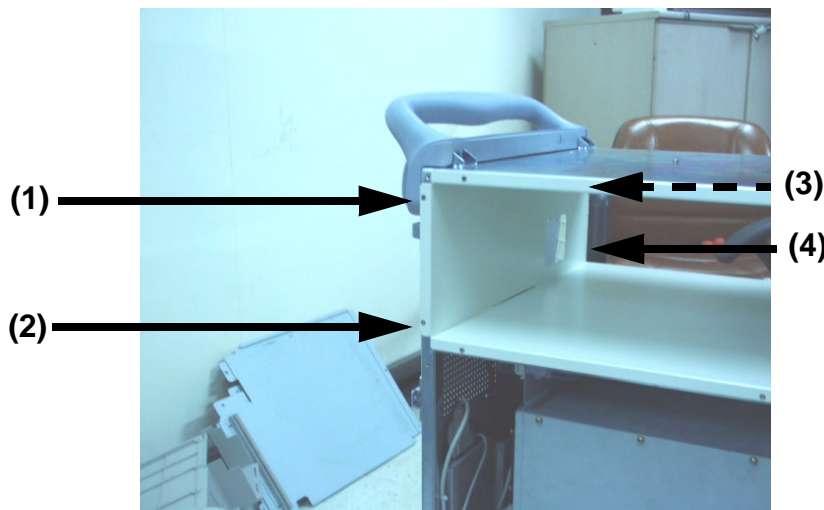

Figure 8-65 Removing the Peri Rear Bracket
- 5.) Unscrew four (4) screws (1-4) to remove peri rear bracket. Refer to Figure 8-65.